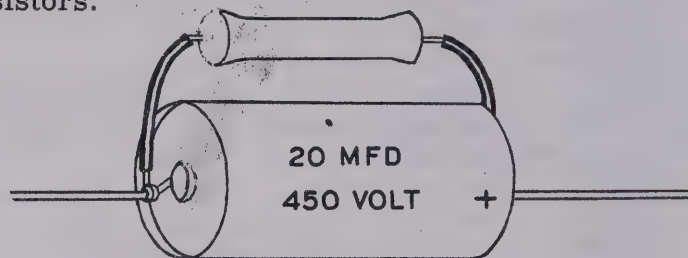

Figure 6
- () On the ceramic switch section, connect a short bare wire from A7 (S) to the solder lug on the feed-through insulator (S).
- () Connect one lead to A8 (S) and the other lead to KK1 (S).
- () Form the leads on two 20 μf 450 volt electrolytic capacitors close to the unit in such a manner that they extend straight out from the center of the capacitor. Now connect each of the 15 K Ω 10 watt resistors across the 20 μf capacitors by wrapping the leads extending past the sleeving around the capacitor lead and close to the capacitor body (S). See Figure 6. The sleeving will space the resistor the proper distance from the capacitor for heat dissipation. Solder the connections.